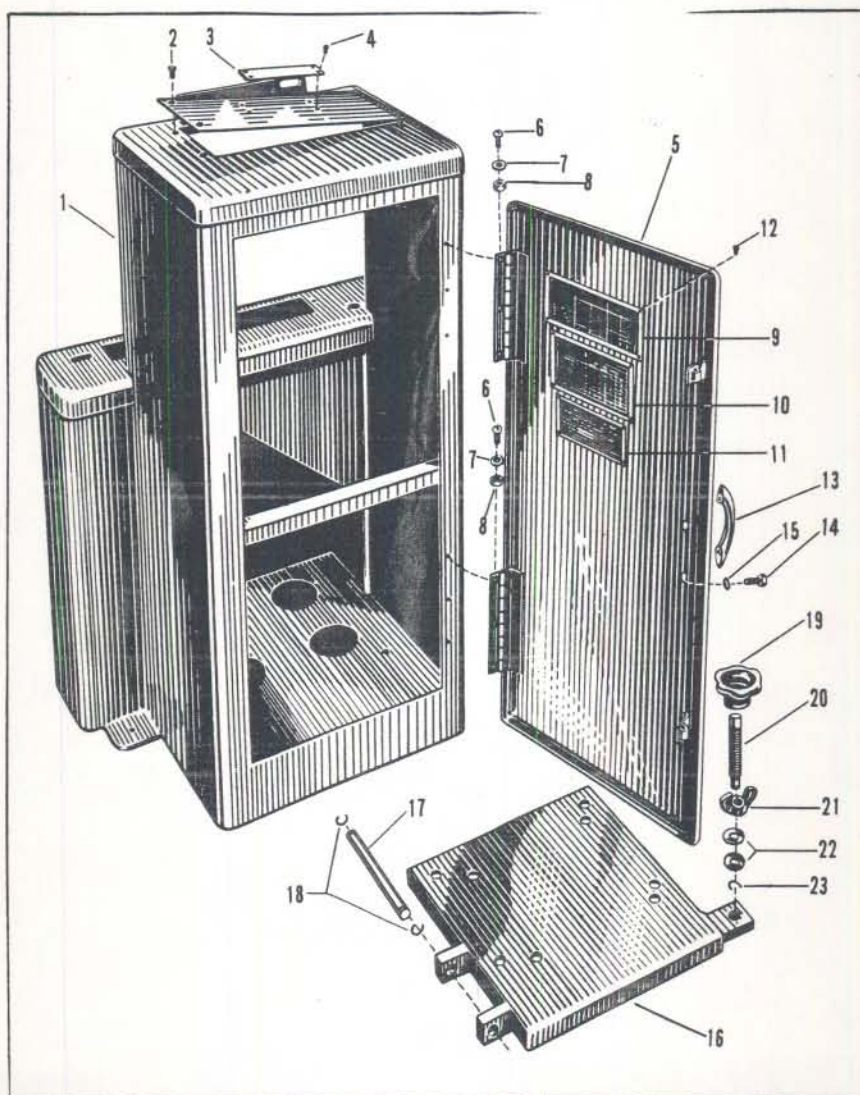

Figure 10. Floor Stand Assembly
* Note: Fig. 10, items 2, 3, 4 illustrates special construction to military specifications. Listed below are the comparable commercial design items.